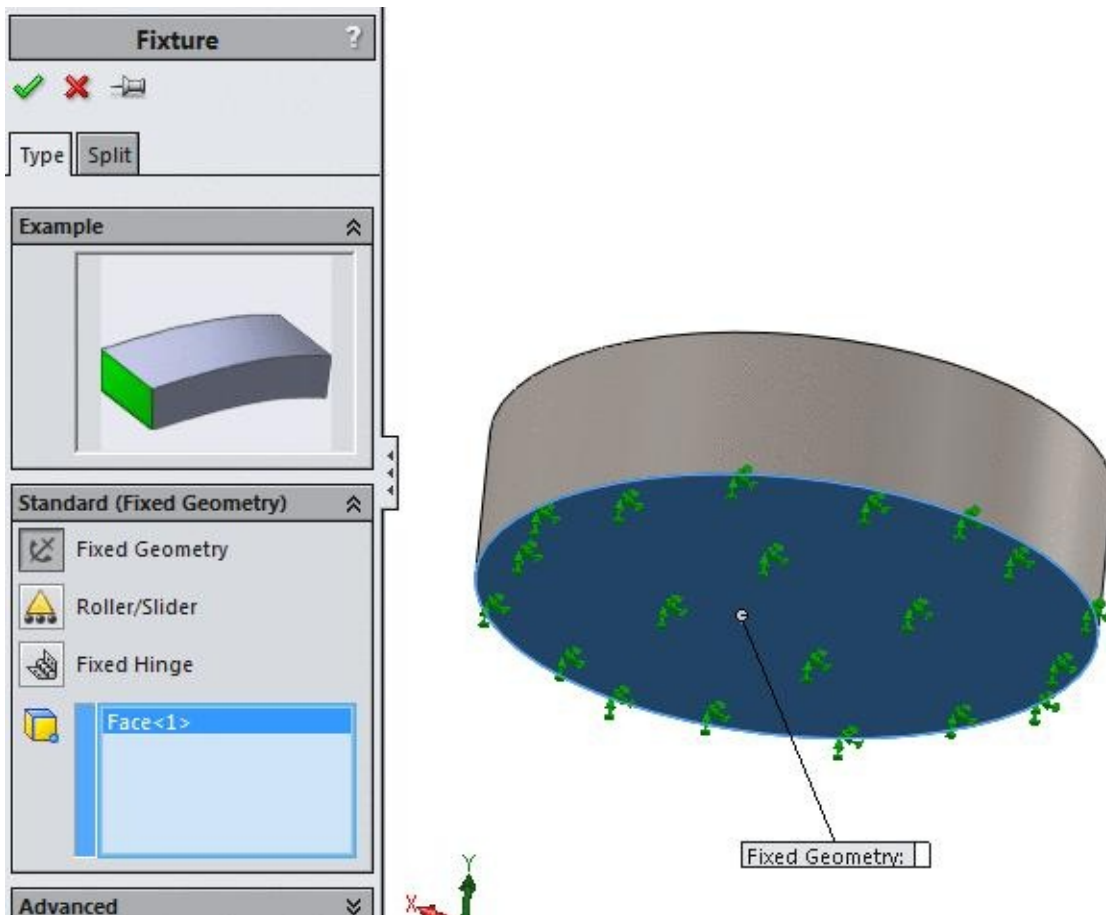

Figure-5. Face to be fixed
- Select the bottom face of the model to fix it; refer to Figure-5.